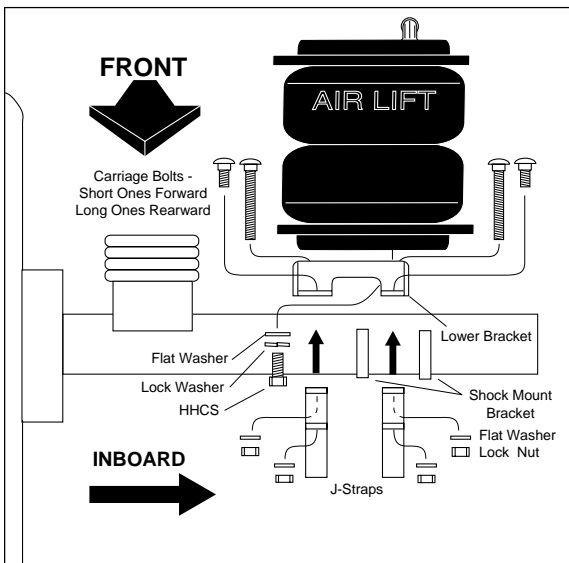

Figure 4
5. On the shock absorber side of the lower bracket, the J-strap will fit between the installed shock and the axle housing. It is not necessary to remove the shock absorber. Loosely assemble the lower straps. Use the short carriage bolts on the shock side (Figure 4).